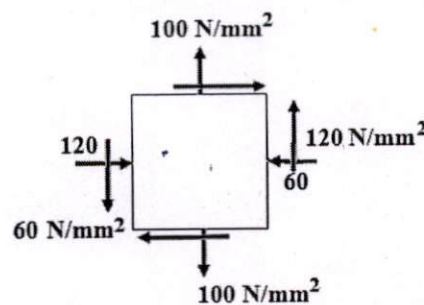

Fig.3
4. A simply supported (SS) beam has a span of 5 m and carries a UDL of 20 kN/m in the left half and a UDL of 40 kN/m in the right half of its length. Draw the SF and BM diagrams and find the position and magnitude of maximum BM in the beam. (14M)
8. A plane element is subjected to the stresses as shown in fig.3. determine (a) the principal stresses and their directions and (b) the maximum shearing stresses and the directions of the planes on which they occur. 14M